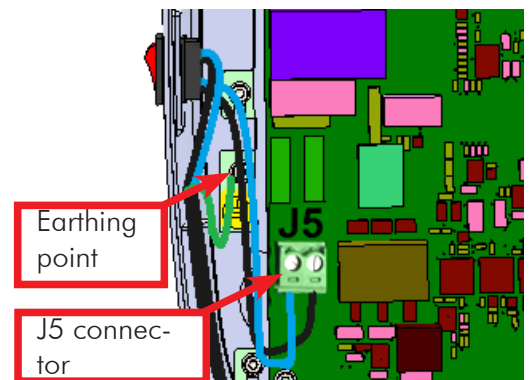

Figure 83
- Connect the wires(Pin terminals) of the switch to the J5 connector on the power board using a Jewel screw driver as shown in Figure 83(Live=Blue & Neutral=Black).
- Connect the GND(ring terminal) wire to the Earthing point (If removed) on the power board plate located just below the switch by fixing the M3X6 HSHC screw using 2.5 mm allen key as shown in the Figure 83.